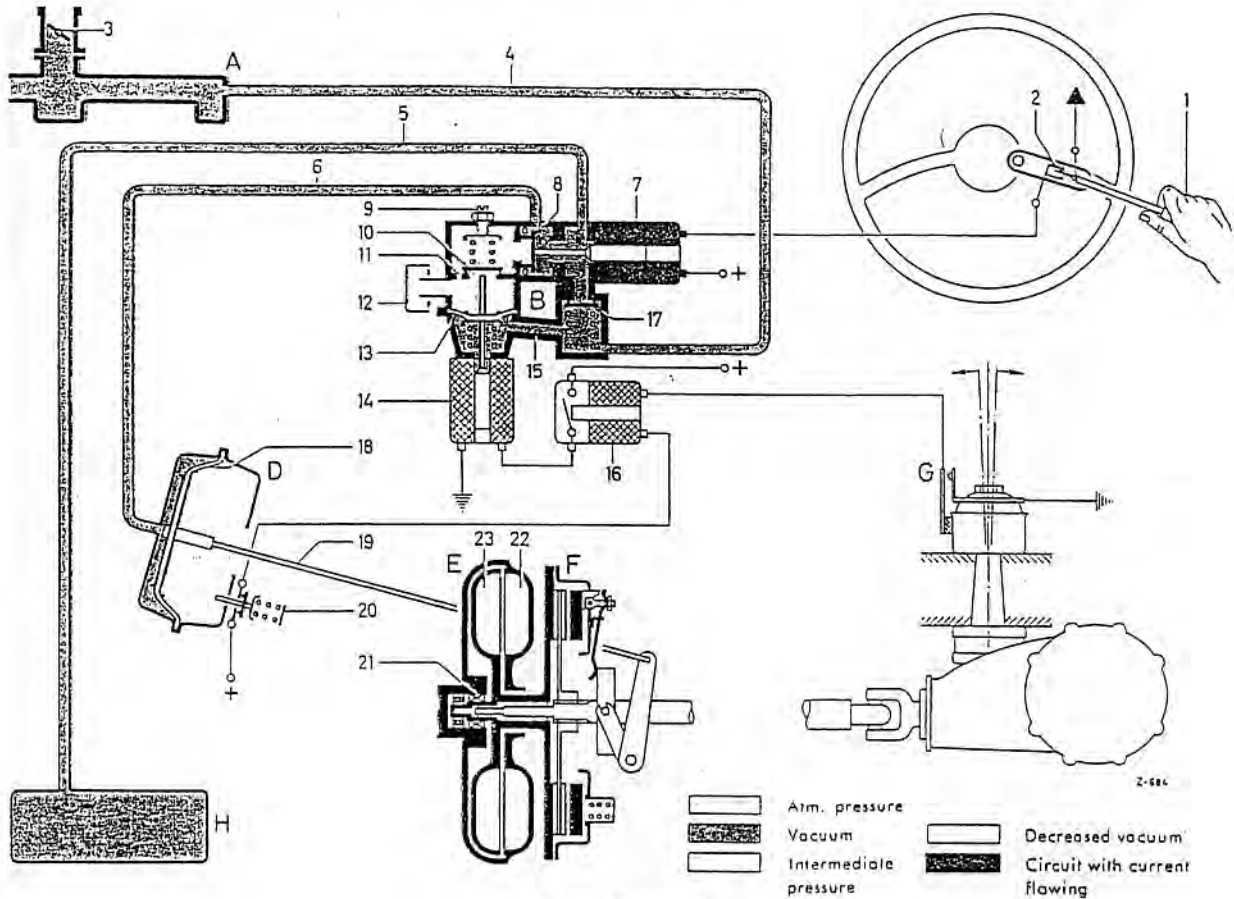

Fig. 25-10/18
As soon as the shift lever (1) is touched, the electrical contact (2) is closed and the electro-magnet (7) of the control element is energized. This causes the valve (8) to be thrust open so that the vacuum side of the servo assembly is connected to the intake manifold and / or the vacuum reservoir (Fig. 25-10/18).